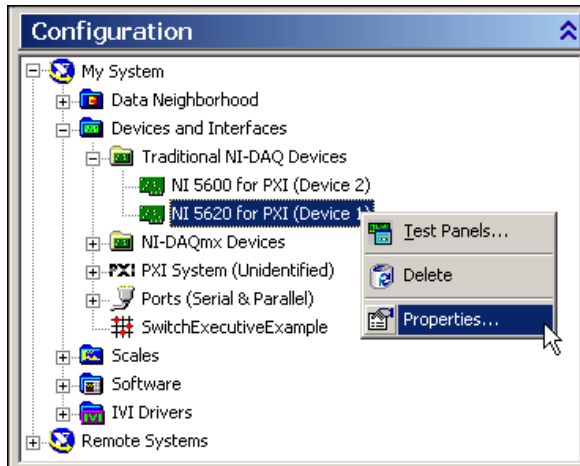

Figure 1-13. Select Properties from the NI 5620 Right-Click Menu
8. Right-click **NI 5620** and select **Properties**, as shown in Figure 1-13.